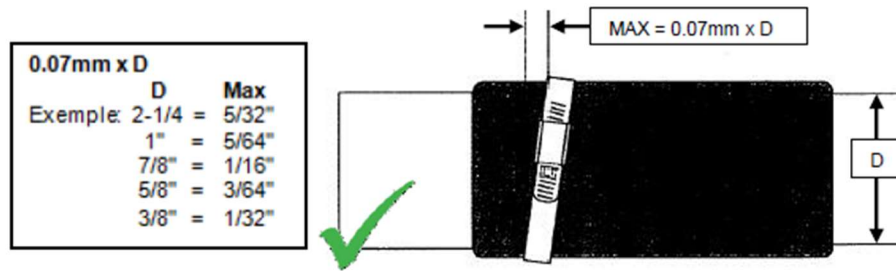

Figure 3
4.4 Maximum clamp misalignment $0.07 \times \text{Dia.}$ (see Figure 3)